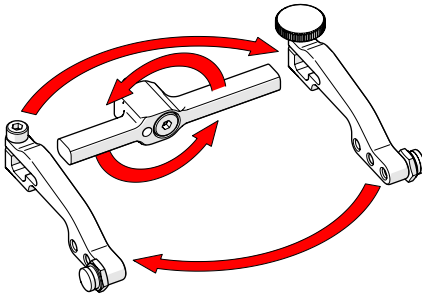

Fig. 189 - Flip yoke and reverse arms
4. Flip the yoke 180° and reverse the probe holder arms (Fig. 189).